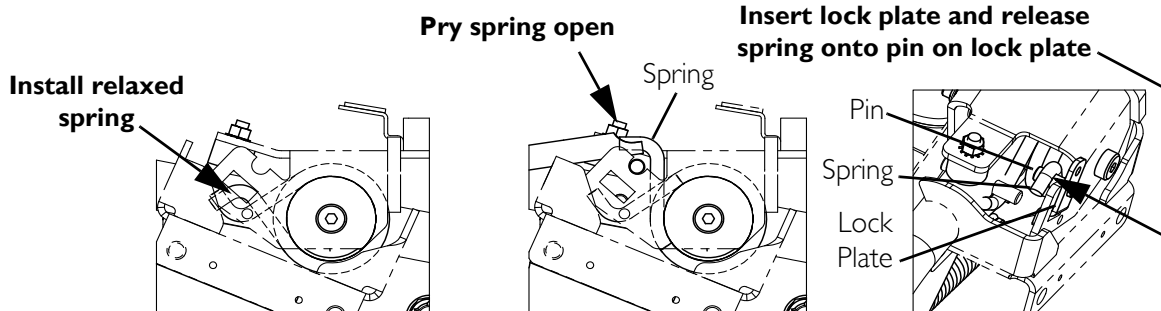

FIGURE 9.3 Removing/Installing the Walking Beam Assembly, Stability Lock Assembly and/or Swing Arm
NOTE: For this procedure, refer to FIGURE 9.3 on page 96.
12. Remove the front mounting screw, two nylon washers, O-ring, cupped washer, locknut securing the pivot link to the wheelchair frame mounting hole (Detail "C" of FIGURE 9.3).
- ii. Align the motor rack under the walking beam (Detail “A” of FIGURE 9.3).
8. Use a screwdriver to pry the torsion spring open (Detail “B” of FIGURE 9.3).
9. Install the lock plate. Release the torsion spring onto the pin on the lock plate (Detail “B” of FIGURE 9.3).